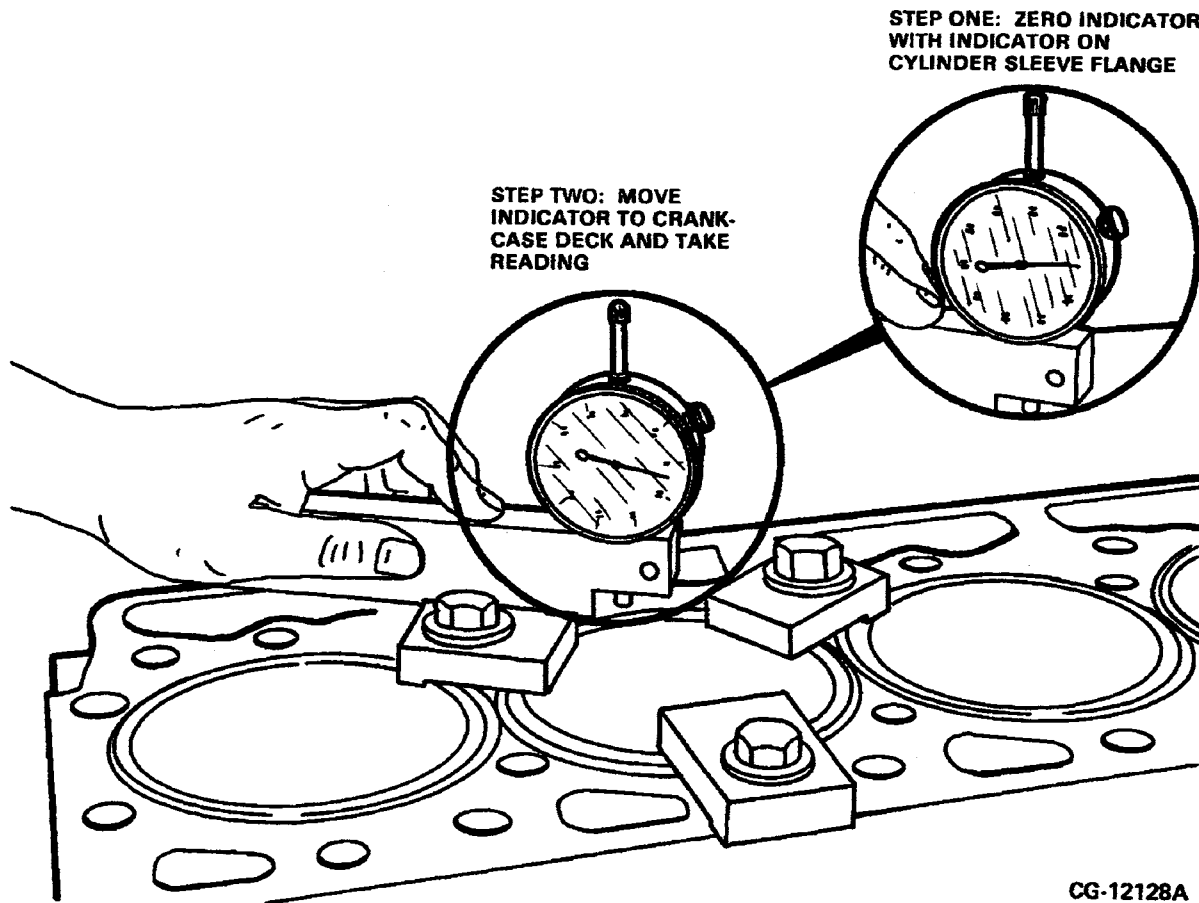

Figure 6.49. Measure Sleeve Protrusion
- d. Using surface gauge ZTSE-2515, place the dial indicator tip on the cylinder sleeve flange. "Zero" the indicator and move the block until the indicator tip drops off the flange to the crankcase deck. Record the reading. Refer to Figure 6.49.